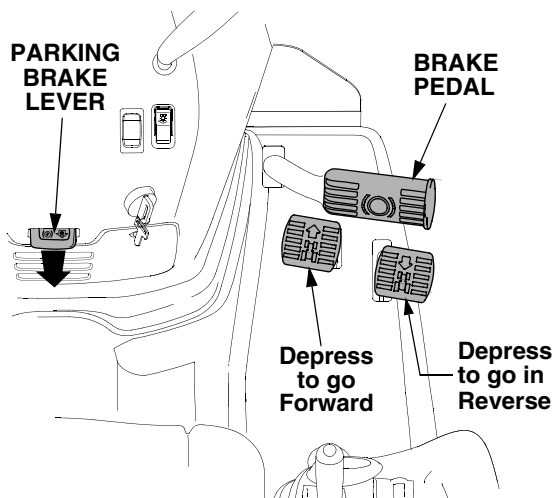

Figure 16
- Fully depress the brake pedal to bring the tractor to a complete stop. Push downward on the parking brake lever and release the pedal to engage the parking brake. See Figure 16.
- To move forward, slowly depress the forward control pedal (See Figure 16) until the desired speed is achieved. The speed of the tractor is directly related to the distance the pedal is depressed.
- To move in reverse, check that the area behind is clear then slowly depress the reverse control pedal. See Figure 16.